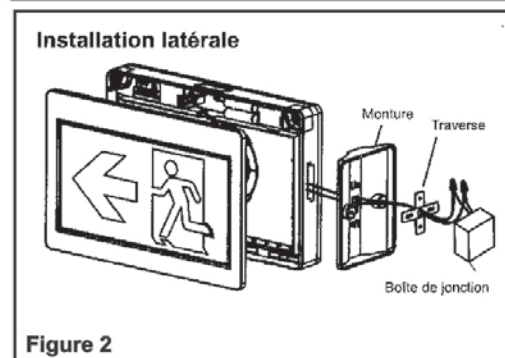

Figure 2
- b. Remove the mounting hole cover from the top or side of the unit depending on your mounting configuration (see figures 2 or 3).